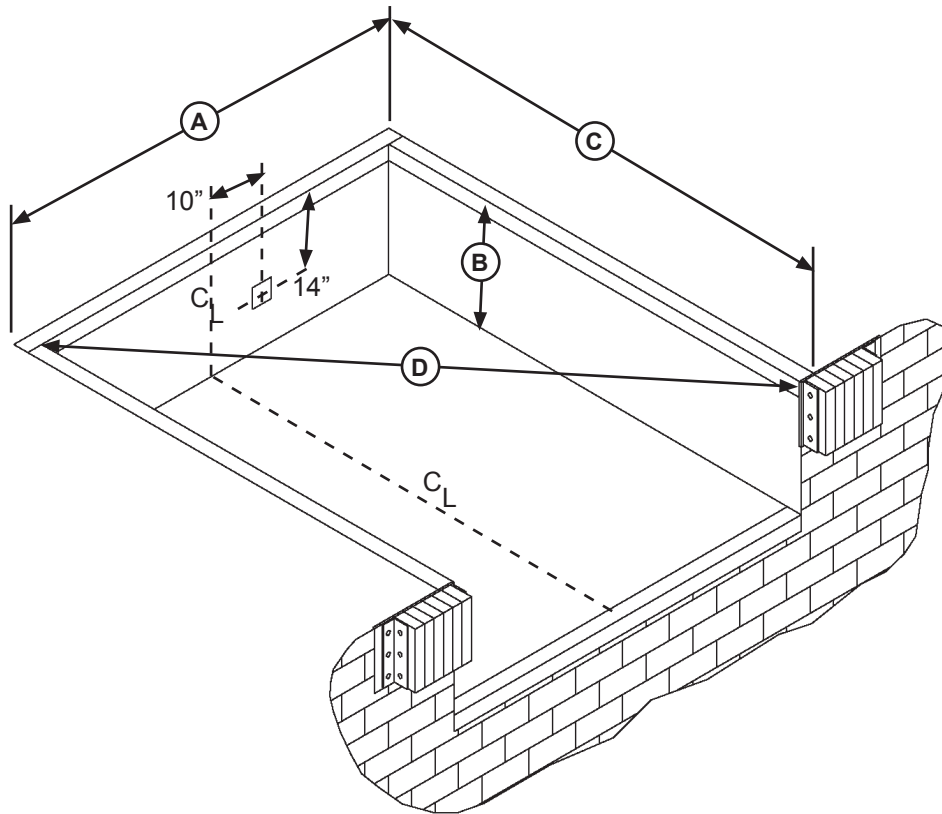

Figure 5
2. Check the entire dock leveler pit for proper construction according to approved/certified pit drawings. Make sure pit is square by making the following measurements (see Figure 5):